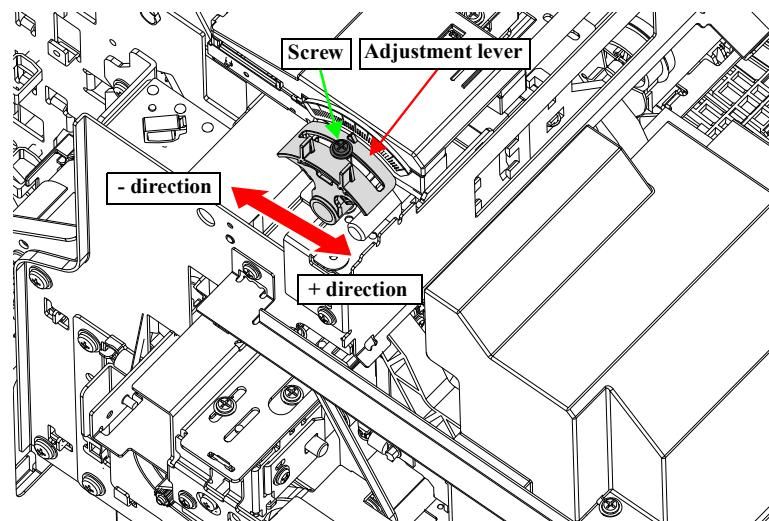

Figure 4-46. Correcting the Head Slant
9. Move the adjustment knob to correct the head slant. See Figure 4-46 for which direction to move the knob.